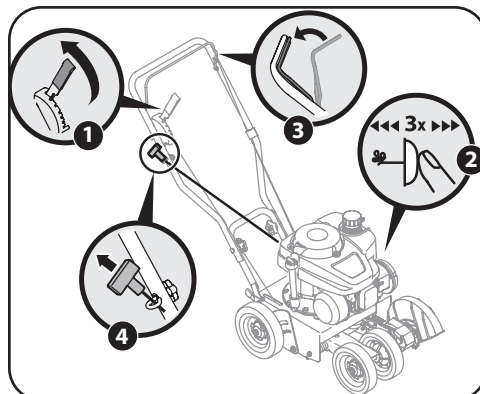

Figure 3-2
2. Push the primer three times. See Figure 3-2. Do not prime to restart a warm engine.
4. With your right hand, grasp recoil starter handle and pull rope slowly until resistance is felt, then pull with a rapid, continuous, full arm stroke. See Figure 3-2. Keeping a firm grip on the starter cord handle, let the rope rewind slowly. Repeat until engine cranks. Let the rope rewind each time slowly.